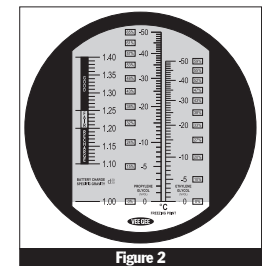
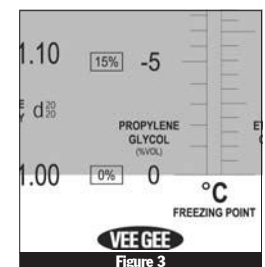

Figure 2
Figure 3
- 5 When the refractometer scale is viewed through the eyepiece, the upper field of view will be seen as blue and the lower field will be seen as white (Figure 2). Confirm that the boundary line crosses the scale at 0°C/1.00 S.G. (Figure 3).